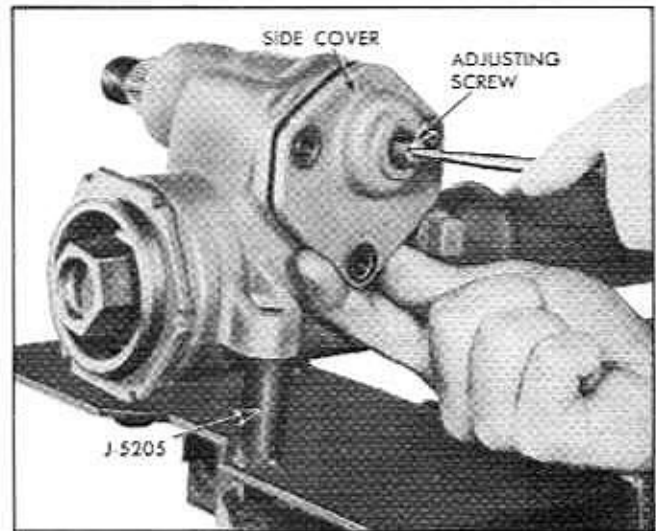

Fig. 9-9 Removing or Replacing Side Cover
1. Remove steering gear assembly from car (page 9-4) and mount on holding fixture J-5205 (Fig. 9-9).
3. Remove side cover and gasket by turning adjusting screw clockwise through cover (Fig. 9-9).